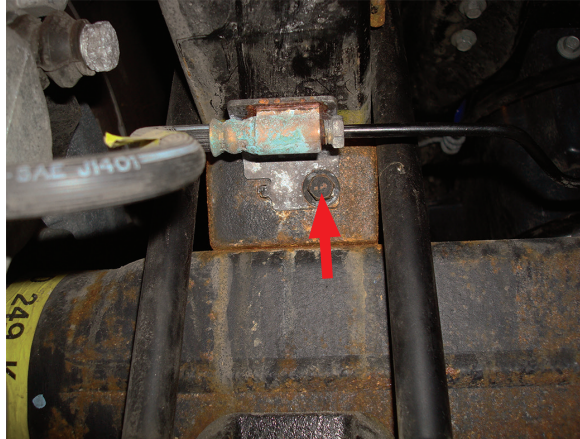

fig. 5
- Remove the bolt from the brake line bracket that is attached to the spring perch (Fig. 5).